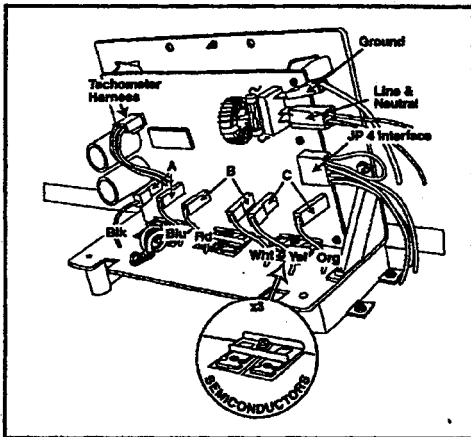

Figure 2-56
1. **Disconnect power to the machine & connect a power test cord to the Line & Neutral terminals of the Motor Control board. (**Figure 2-56**).**
- a. Check the 10 amp fuse located on the control board, either visually or with an ohm meter. If bad, replace motor control/wire harness assembly completely (*Figure 2-56*).
To gain access to the Motor Control Board terminals: (*Figure 2-56*)
6. Connect the power test cord to the Ground wire, Line 1 and Neutral wires. (Leave the JP4 connector off the board.) (*Figure 2-56*).
2. Disconnect power to the machine & connect a power test cord to the Line & Neutral terminals of the Motor Control board (*Figure 2-56*).